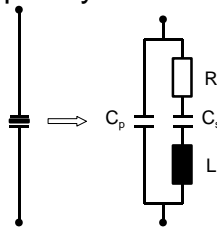

Figure 11.10
9. The quartz crystal used in electronics represents a small piece of polished crystal, with two of the opposite metallic sides. From an electrical point of view it behaves like a circuit whose equivalent scheme is shown in figure 11.10. The circuit has two natural resonance frequencies, one series and one parallel. The series frequency is determined by: